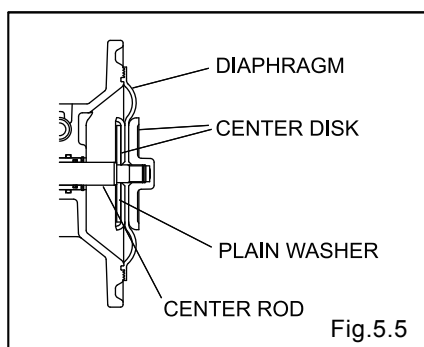

Fig.5.5
- Draw the center disk to one side, (cf. Fig.5.5) and install the out chamber. Tighten the bolts temporarily.
- Draw the center disk to the opposite side, then turn the diaphragm over (cf. Fig.5.5). And install the out chamber. Tighten the bolts temporarily.